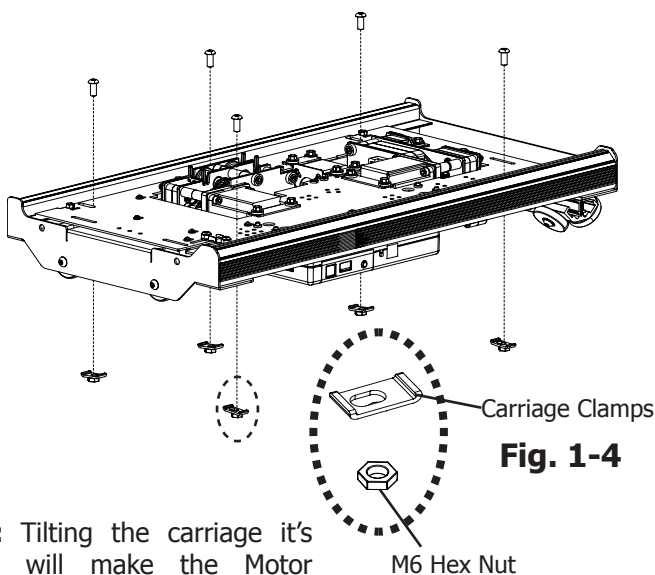

Fig. 1-4
Step 1-2: Attach the Motor Plate to the Bottom Carriage using the **(5) Carriage Clamps** and the **(5) M6 x 14mm SBHC Screws** and **(5) M6 Hex Nuts**, as shown in **Fig. 1-4** through **1-7**. **Do not** tighten the nuts all the way, as you will need to align the plate with the belts in a later step.